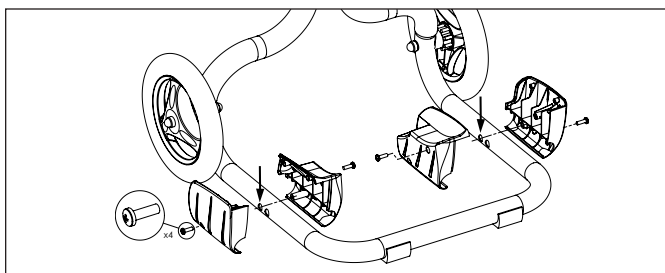
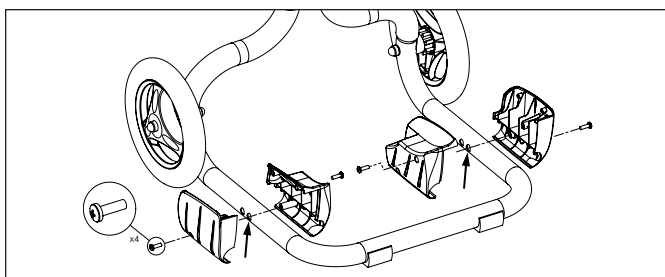

Figure 10. Attaching the Support Blocks (Polaris P93)
Figure 11. Attaching the Support Blocks (Polaris P94)
8. Attach the support blocks to the caddy using four (4) screws as shown in Figures 10 and 11. For the Polaris P93, see Figure 10 for orientation and positioning of the blocks, and for the Polaris P94, see Figure 11